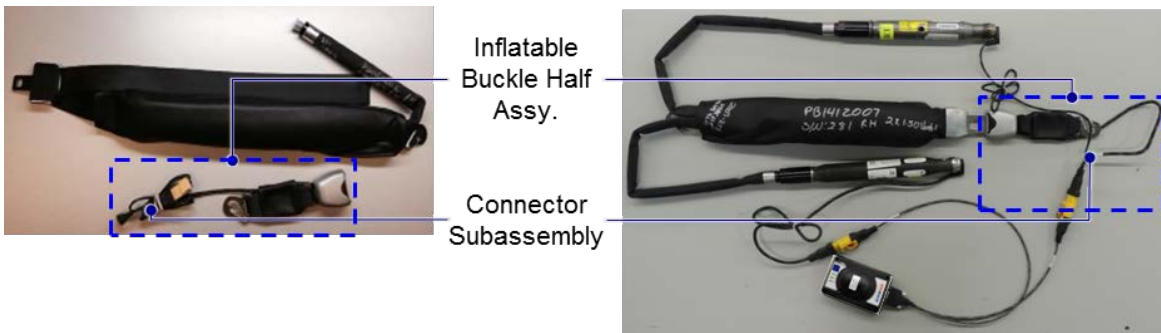

Figure 5 – Inflatable Buckle Half Assemblies with Enabling Switches
- If a connector subassembly (Figure 5) is attached to the inflatable buckle half assembly, the system has an enabling switch.